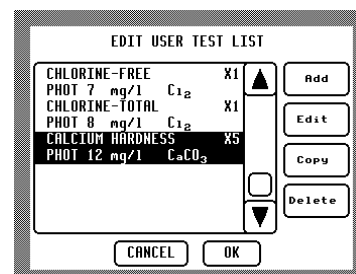

Fig 22 – Edit Test List Screen
- Touch **System** ... **Edit User List** and **Edit Test List**. A scroll box of the current tests will be displayed – see Fig 22 :-
- Touch ... and . A scroll box of the current test list will be displayed (see Fig 22 Page 28).